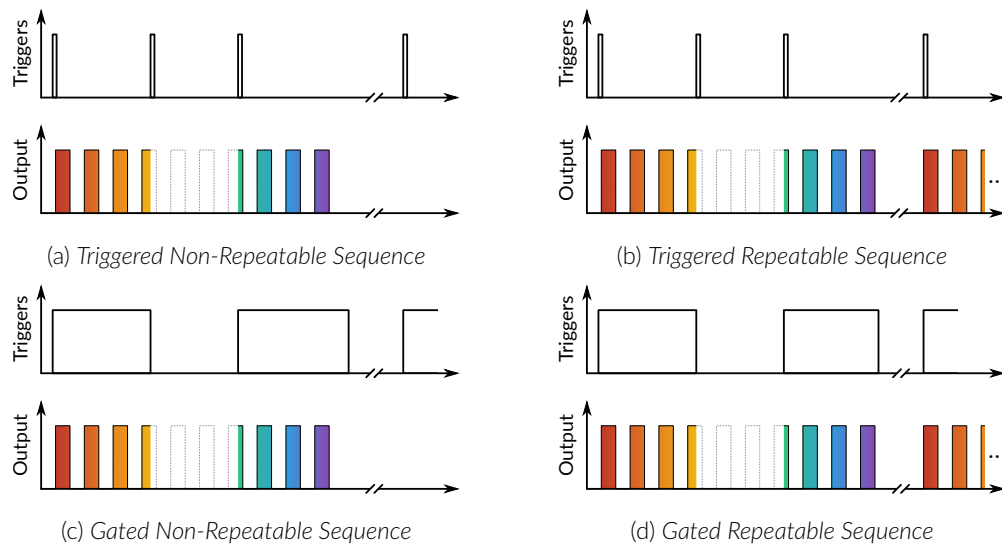

Figure 4.10: Continue Sequence Mode
- **Continue:** This mode activates the channel sequence when a rising edge greater than 3.3 V is detected on the BNC input (Fig. 4.10). The following input pulse (when *Triggered*, Fig. 4.10a) or a falling edge (when *Gated*, Fig. 4.10c) will turn off the output, but the sequence will continue. The output will be turned back on at the reception of the following rising edge. Triggers only affect the output voltage value. When the **Repeatable sequence** checkbox is checked, the sequence will restart with the arrival of the first input pulse after the sequence has finished (Figs. 4.10b and 4.10d).